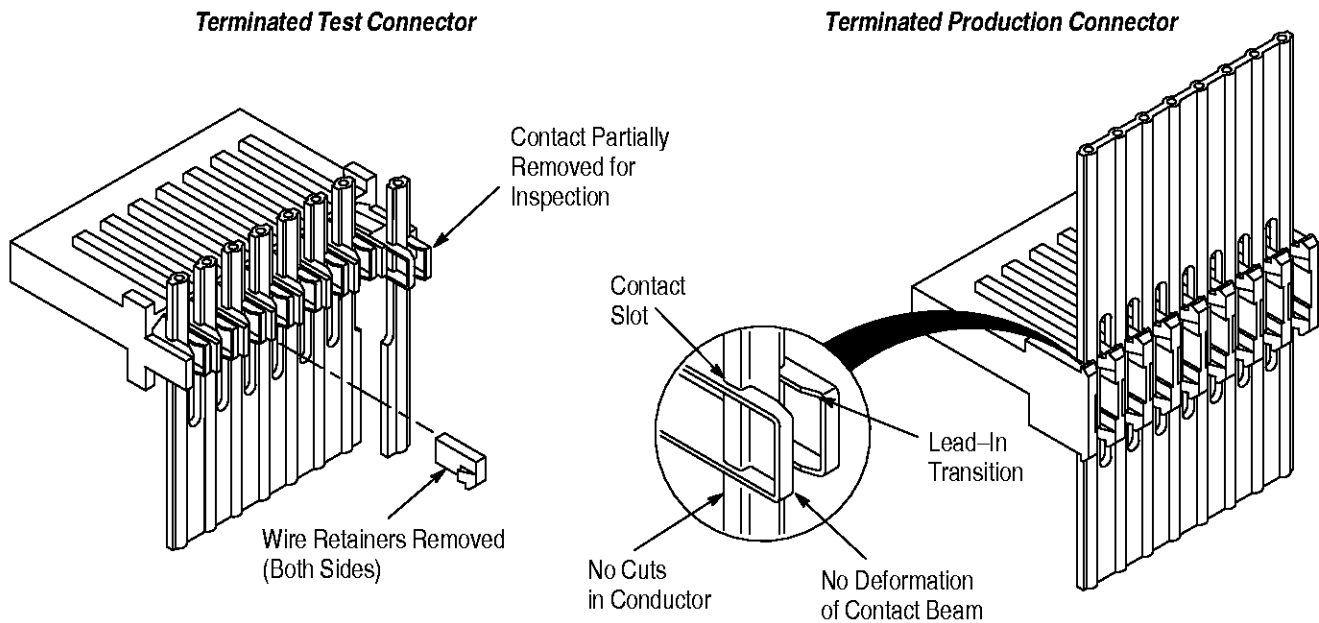

Figure 5
1. Using a small knife, cut off the wire retainers (strain relief) from both sides of the test connector. See Figure 5.
6. Refer to Figure 5 and visually inspect the connector according to the following. If wire insertion depth is found to be improper, refer to Section 5 for head adjustments.